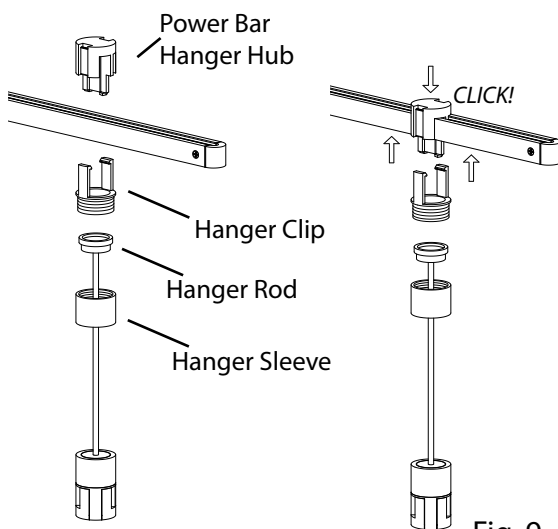

Fig. 9
1. Press down firmly on the top of the **Power Bar Hanger Hub** while pressing up on the bottom of the Power Bar, until the Power Bar Hanger Hub clicks into place. (Fig. 9)